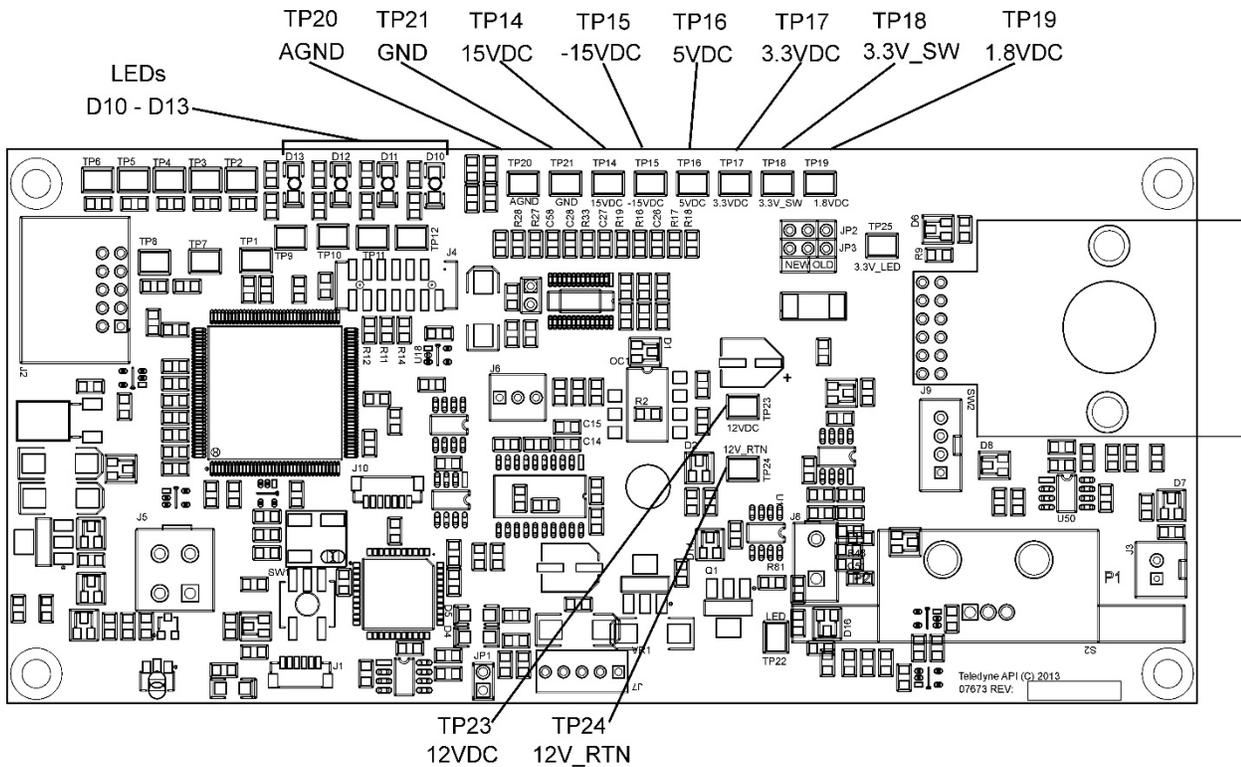

Figure 5-11. DAQ PCA Test Points and LEDs
If any adjustment to that cable does not resolve the issue, the DAQ PCA can be checked by observing LEDs D10 through D13 (Figure 5-11). If they are not blinking, the DAQ may need to be changed. Although not all test points (TP) on the DAQ are used, if the values for TP14 through TP21, TP23 and TP24 do not come back as expected (Figure 5-11), contact Teledyne API Technical Support for a replacement.